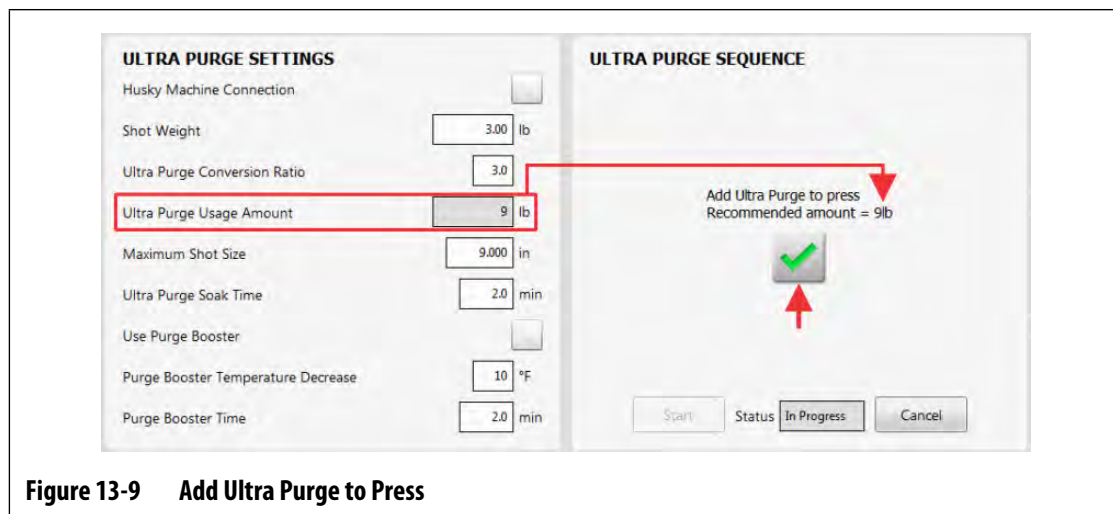

Figure 13-9 Add Ultra Purge to Press
9. Add the recommended amount of Ultra Purge compound to the IMM (refer to Figure 13-9).